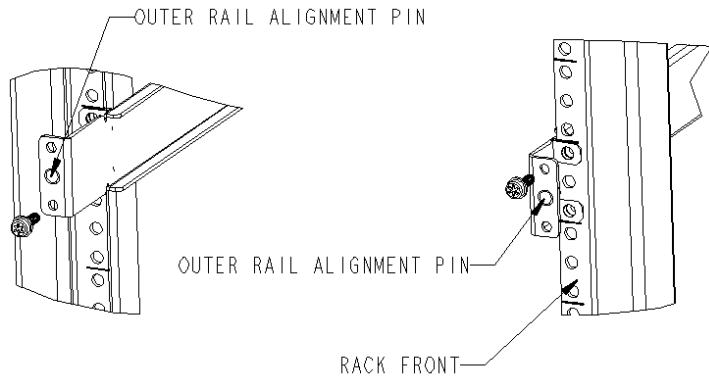

Figure 7. Assembling the Outer Rails (HP Rack)
- For an HP rack, install one M5 Torx screw in the upper hole location of the right rail. Then, install one M5 Torx screw in the lower location of the left rail. See Figure 7.